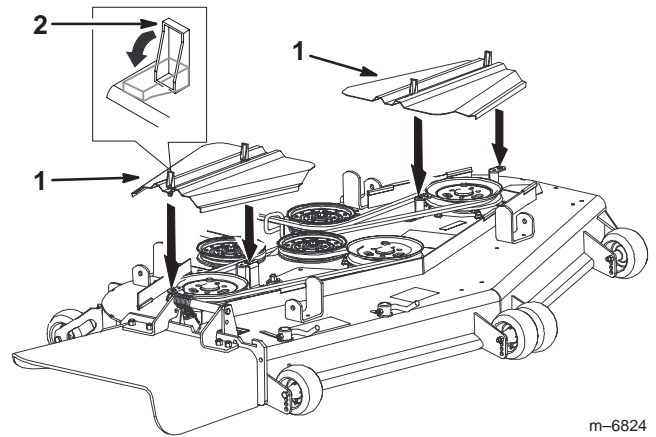

Figure 67
3. Remove the belt covers (Fig. 67).
7. Install the belt covers and close the latches (Fig. 67).